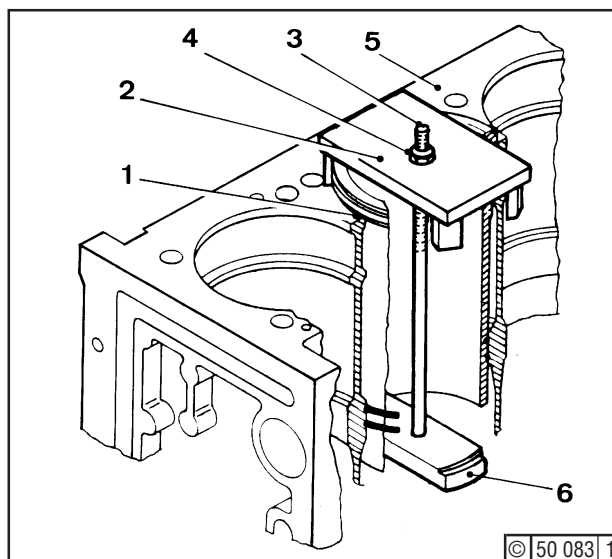

Fig. 2 Removal and refitment tools
- Fit bridge (2) on crankcase (5), Fig. 2
- Fit tension rod screw (3) through the hole of the bridge (2) in the cylinder lining.
- Press the pulling bracket (6) against the cylinder lining from the crank cavity.
- Screw tension rod screw (3) into the pulling bracket (6), and fit hexagon nut (4).
- Tighten hexagon screw (4) until the cylinder lining raises out of the guide. Use a lifting device to pull the cylinder lining vertically out of the crankcase, and deposit on a wooden support.
- Remove the seal (1).